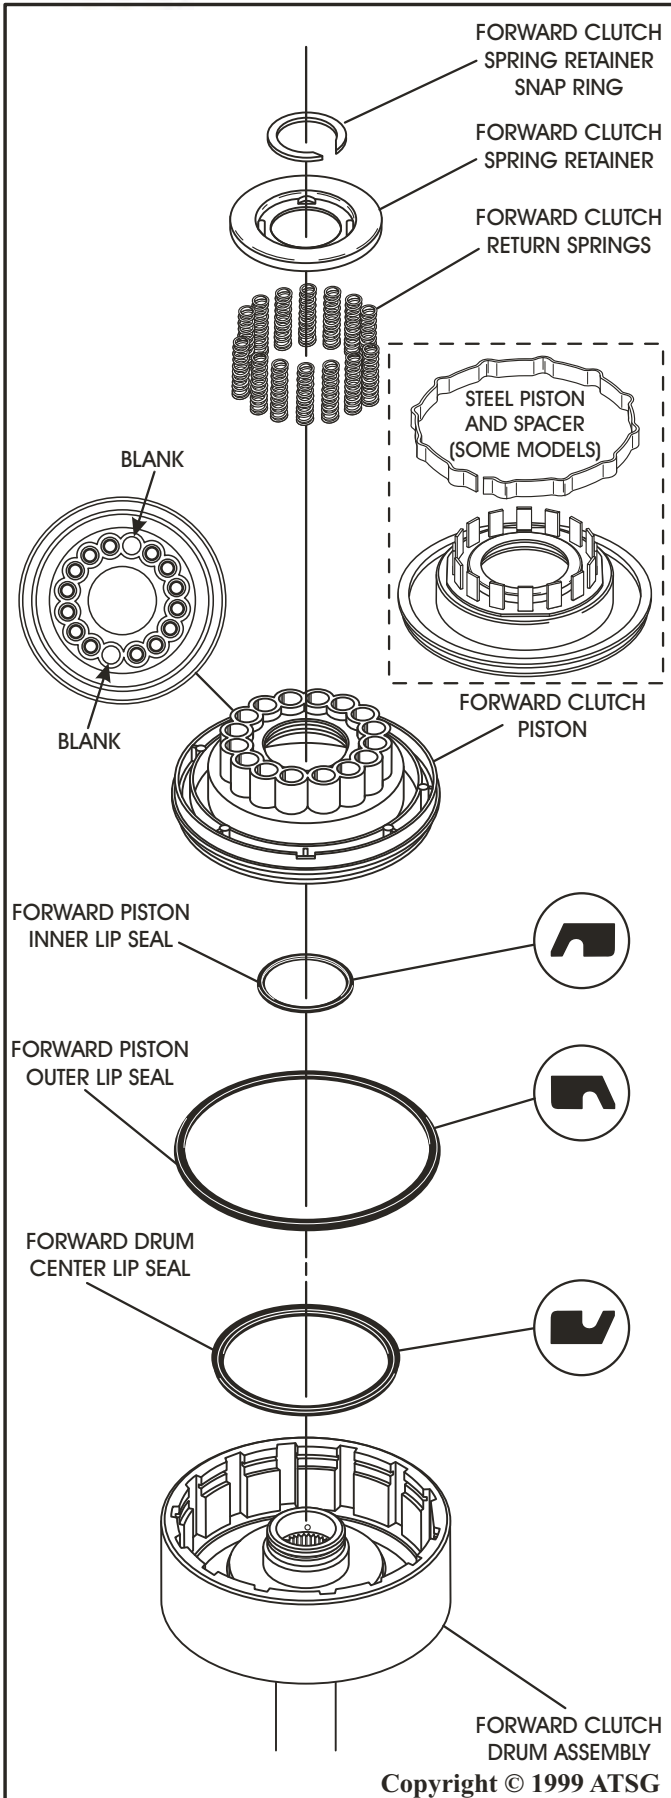

Figure 87
9. Install new forward center drum lip seal into the groove in forward drum, with the lip facing the direction shown in Figure 87, and lubricate with a small amount of TransJelÖ.
10. Install new forward clutch piston outer lip seal in groove of forward clutch piston, with the lip facing in the direction shown in Figure 87.
11. Install new forward clutch piston inner lip seal in groove of forward clutch piston, with the lip facing in the direction shown in Figure 87.
- Note: Some models use stamped steel forward clutch piston and spacer (See Figure 87).**
16. Install 14 forward clutch piston return springs into the cavities in the piston in the positions shown in Figure 87, leaving two blank pockets 180 degrees from one another.